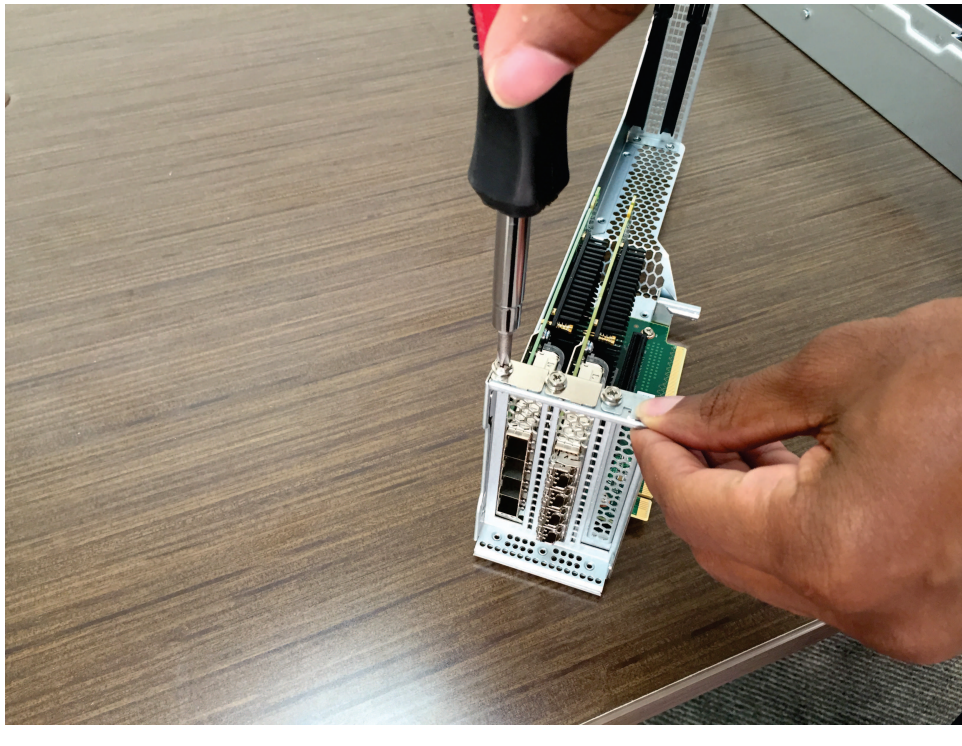

Figure 153. Removing the retaining screw
2. Remove the retaining screw that secures the adapter to the adapter assembly, as Figure 153 shows.